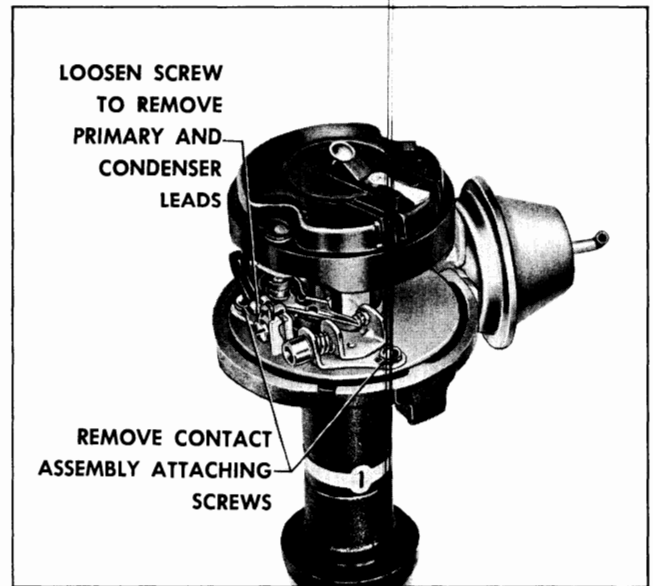

Fig. 11-46 Distributor Contact
1. Remove two attaching screws (Fig. 11-46) which hold base of contact set assembly in place.
2. Remove condenser lead and primary lead from nylon insulated connection by turning screw (Fig. 11-46) in contact set.